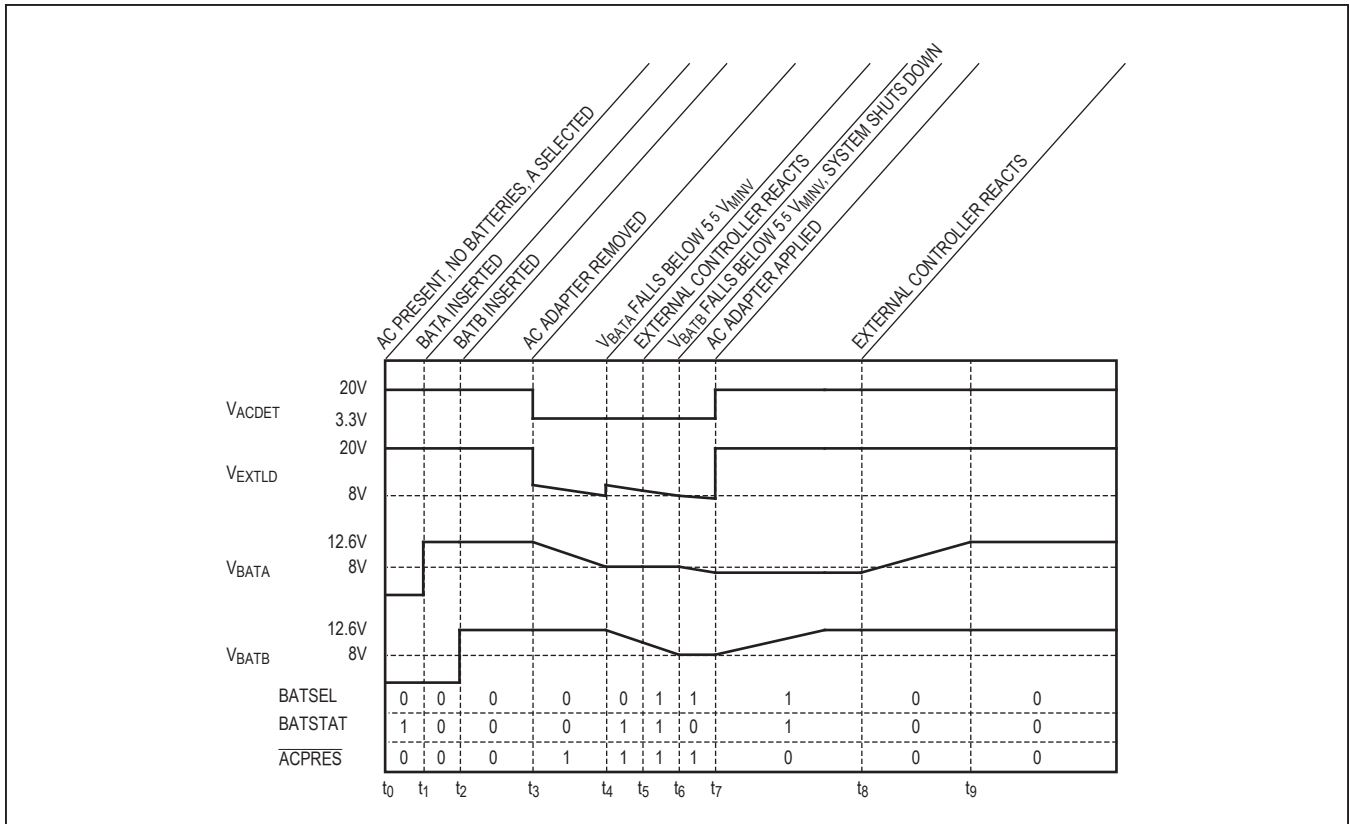

Figure 12. Charge/Discharge Example
Figure 12 shows a typical discharge and charge cycle for a system utilizing the MAX1773/MAX1773A, two 3-cell lithium-ion (Li+) batteries, and a 20V AC adapter power supply. The diagram starts with the AC adapter applied, no batteries present, and battery A selected (see the AC Adapter States section).  $BATSTAT = BATSEL = 1$  indicates that battery A is not present and battery A’s charge path is not connected. If the external controller polled the MAX1773/MAX1773A as described in Status and Configuration, then  $BATSTAT$  would return  $BATSEL$  (0) to indicate that battery B is not present.